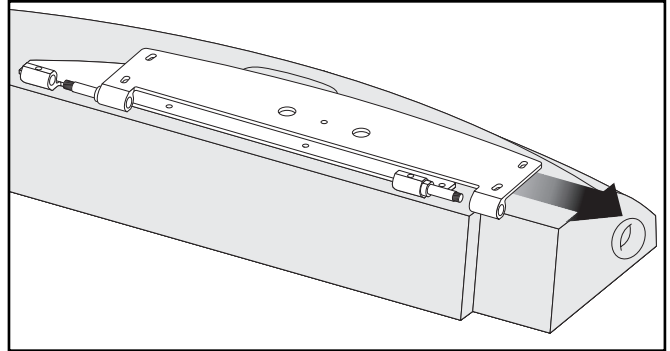

Figure 8. Remove the wall bracket from the cabinet bracket.
- 3 Carefully remove the wall bracket from the cabinet bracket (see figure 8).